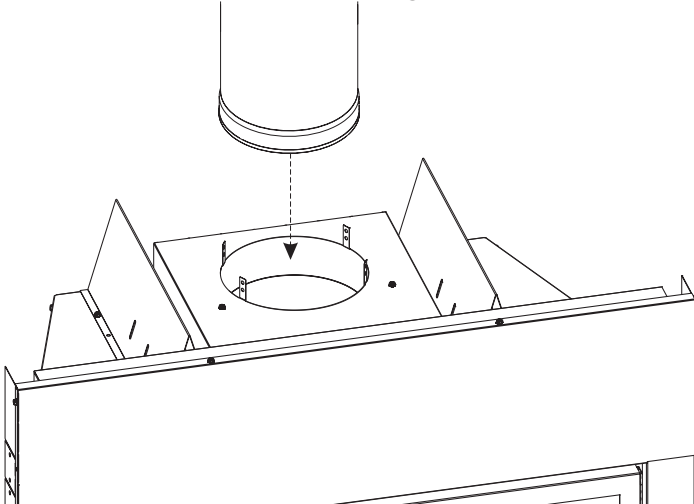

Figure 23
2. Insert the first piece of pipe and secure with 4 screws through the tabs and into the pipe. See Figures 23 and 24.